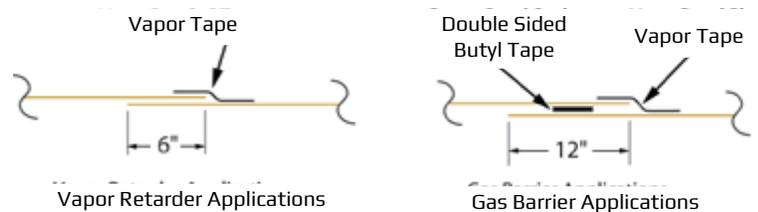

Fig. 2: VaporBlock Plus overlap joint sealing methods
1.3. Lap VaporBlock® Plus™ over the footings and seal with Butyl Seal tape at the footing-wall connection. Prime concrete surfaces, when necessary, and assure they are dry and clean prior to applying Butyl Seal Tape. Apply even and firm pressure with a rubber roller. Overlap joints a minimum of 6" and seal overlap with 4" VaporSeal™ Tape. When used as a gas barrier, overlap joints a minimum of 12" and seal in-between overlap with an optional 2-sided Butyl Seal Tape. Then seal with 4" Vapor Seaming Tape centered on the overlap seam. (Fig. 2)